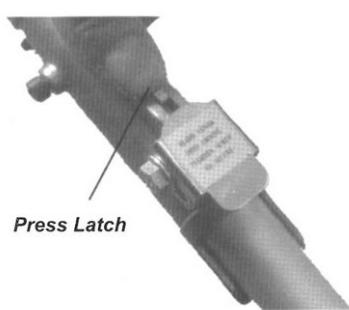

Figure 14
2. Depress the latch. This releases the coupler lock. See Figure 14.